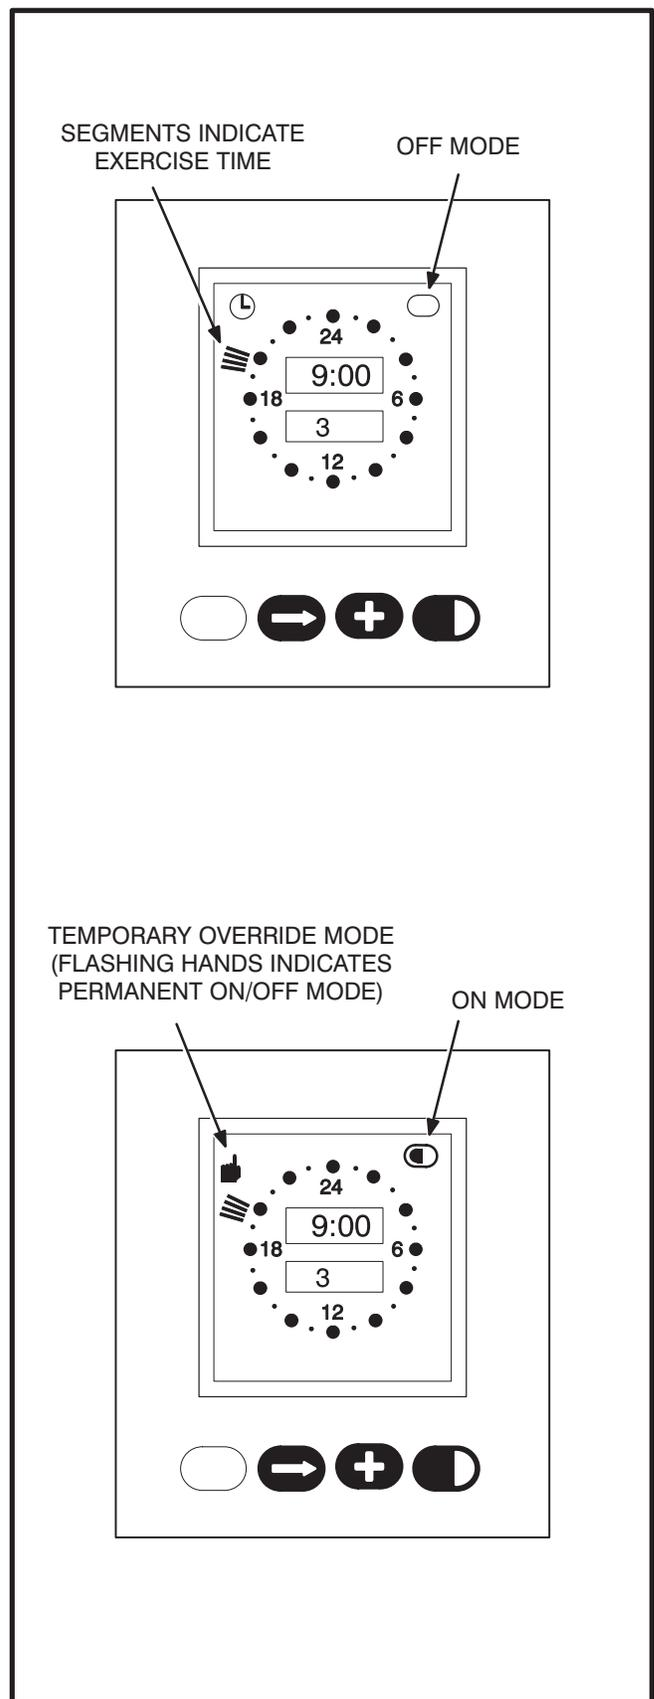

FIGURE 4-8. EXERCISER CLOCK ON/OFF MODE
- Press the plus (+) button to increment the **Start** time of the exercise program. The display will show midnight (0:00). Note that by holding the (+) button down, the minutes will increment in 15 minute intervals. When the **Start** time is reached, press the set (**⏸**) button (On Mode is indicated, Figure 4-8).
Then increment the time with the plus (+) button to the desired **Stop** time. When the **Stop** time is reached, press the set (**⏸**) button (Off Mode is indicated, Figure 4-8).
Note that the exercise time is indicated by a band of segments illuminated around the outer ring of the clock from the start to the stop time (Figure 4-8).
During the exercise period, the ON mode is indicated in the ellipse in the upper right corner of the display (Figure 4-8).
With the normal source connected and available, pressing the set (**⏸**) button once will initiate a test sequence. A hand will be displayed in the upper left corner of the display and the On mode will be indicated inside the ellipse in upper right corner of the display (Figure 4-8). Pressing the set (**⏸**) button again will stop the test and the ellipse will indicate the OFF mode.
To temporarily override an activated exercise program, *momentarily* press the set (**⏸**) button. A small hand will appear in the upper left corner of the display (Figure 4-8). The current program will be overridden and the clock will automatically set for the next program. Momentarily pressing the set (**⏸**) button again will return to the current program.
Holding the set (**⏸**) button down until a *flashing hand appears* in the upper left corner of the display initiates the permanent On/Off mode (Figure 4-8). The On mode is indicated by a continuous band of segments illuminated around the clock. The Off mode is indicated by all of the segments around the clock being off. Pressing the set (**⏸**) button momentarily toggles between the permanent On and permanent Off modes. Holding the set (**⏸**) button down until the clock symbol returns to the upper left corner of the display, ends the continuous On/Off mode and returns to the normal program mode.